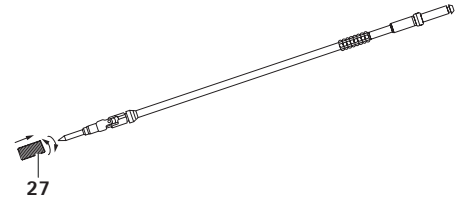
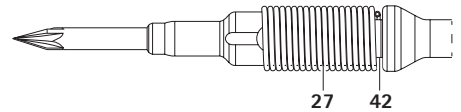

Fig. 19 Assembling ME190R
Fig. 20 Correct spring position
- ▶ Slide the spring **27** over the distal end until it is completely covering the u-joint. The end of the spring must sit in the undercut **42**, see Fig. 19 and see Fig. 20.